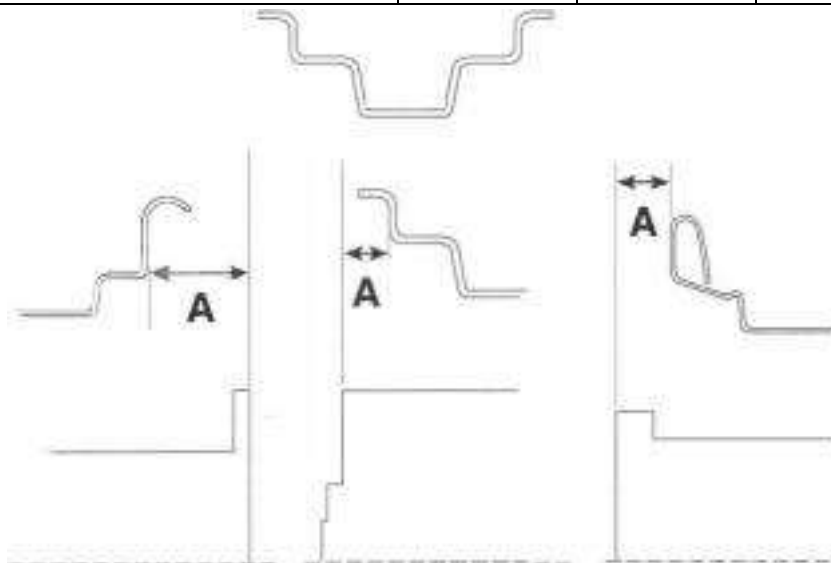

Figure 3-17. Laced Wheel Hub Offset Dimensions
- b. See Figure 3-17. Measure the distance from the straightedge to the location shown to determine distance A. '